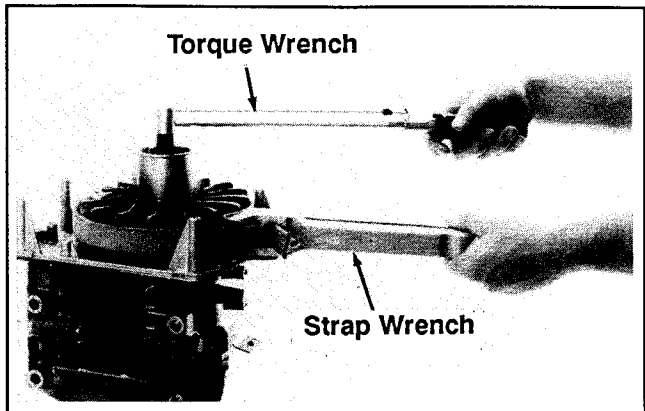

Figure 11-16. Tightening Flywheel Fastener.
3. Hold the flywheel with a strap wrench and torque the hex flange screw to **67.8 N•m (50 ft. lb.)**. See Figure 11-16.